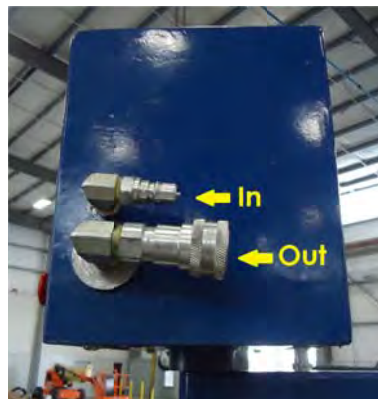

Figure 5
6. Connect the hoses from the mini power unit (unit seen in Figure 7) to the control box per Figure 5